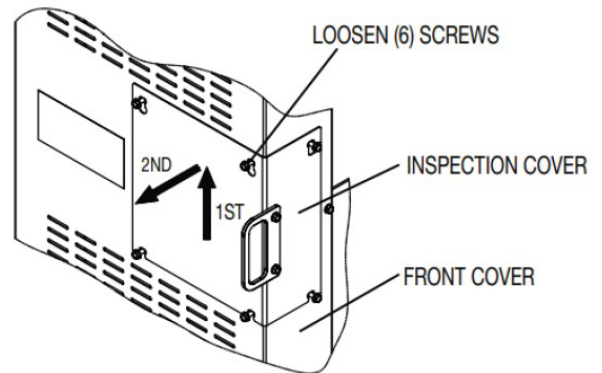

Figure 26 - Equipped with Inspection Cover
1. To gain access to the v-belts on belt guards with an inspection cover, loosen, but do NOT remove, the six screws that hold the inspection cover onto the front cover. Refer to Figure 26.